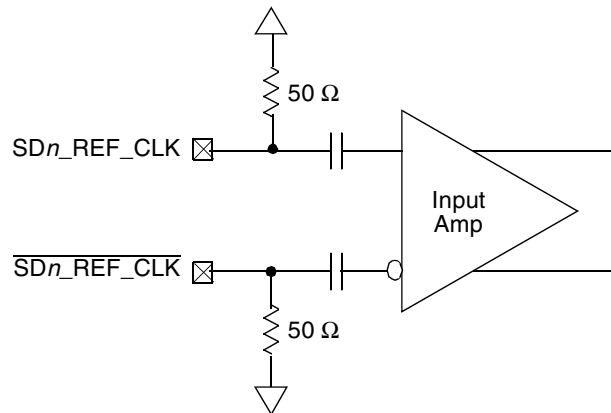

Figure 44. Receiver of SerDes Reference Clocks
Figure 44 shows a receiver reference diagram of the SerDes reference clocks. Characteristics are as follows:
- The  $\text{SDn\_REF\_CLK}$  and  $\overline{\text{SDn\_REF\_CLK}}$  are internally AC-coupled differential inputs as shown in Figure 44. Each differential clock input ( $\text{SDn\_REF\_CLK}$  or  $\overline{\text{SDn\_REF\_CLK}}$ ) has on-chip 50- $\Omega$  termination to  $\text{SGND\_SRDSn}$  (xcorevss) followed by on-chip AC-coupling.